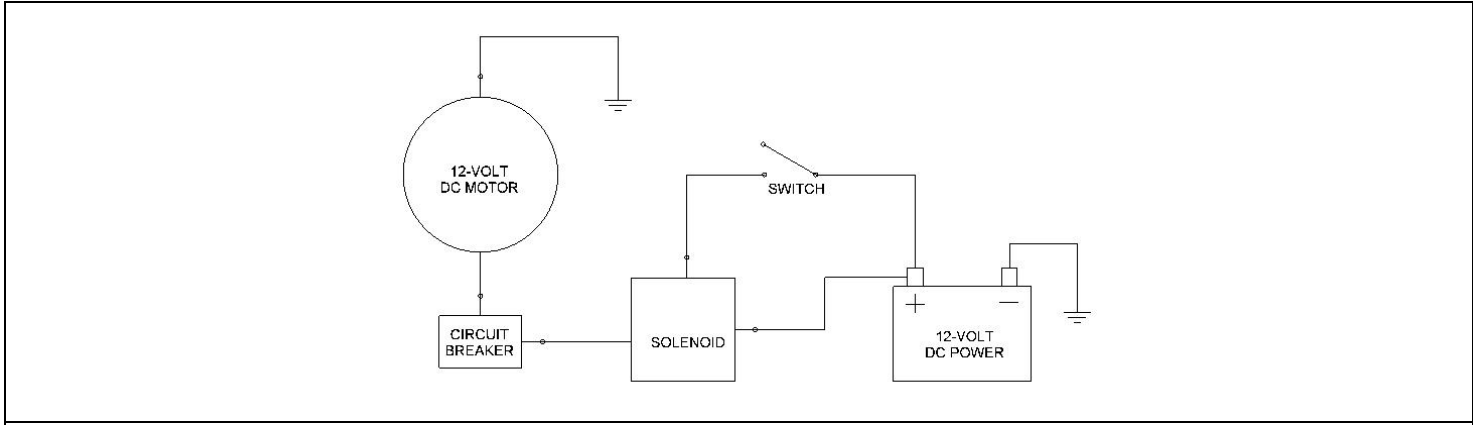

FIGURE 4.0 "E/ED" MOTOR DIAGRAM (SINGLE POLE SINGLE THROW)
- Ensure power supply and motor voltage ratings are compatible. Refer to figures 4.0, 5.0, and 6.0 for wiring diagrams.